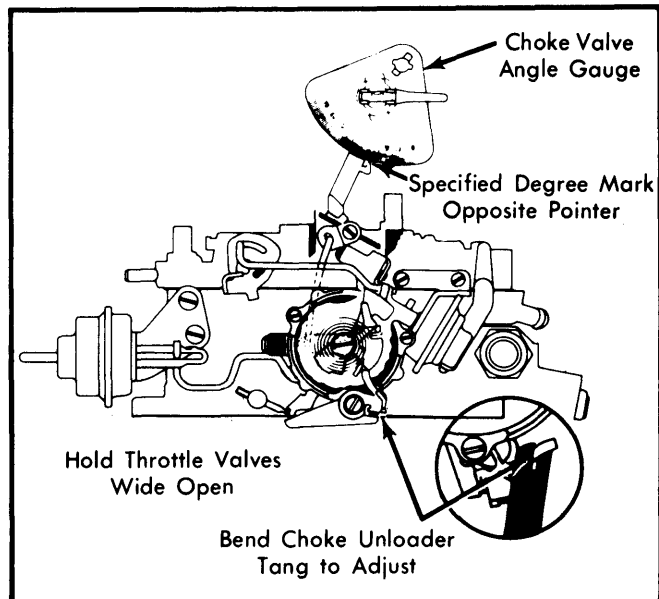

Fig. 11 Adjusting Choke Unloader
- 1) Adjust automatic choke as previously outlined. Hold throttle valves wide open. See Fig. 11.